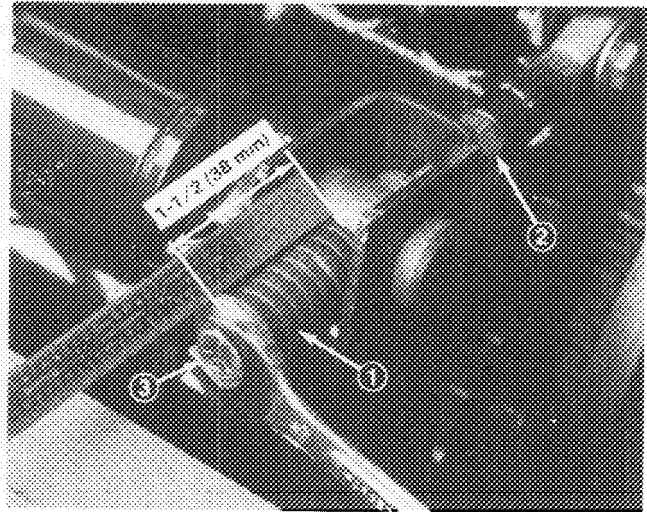
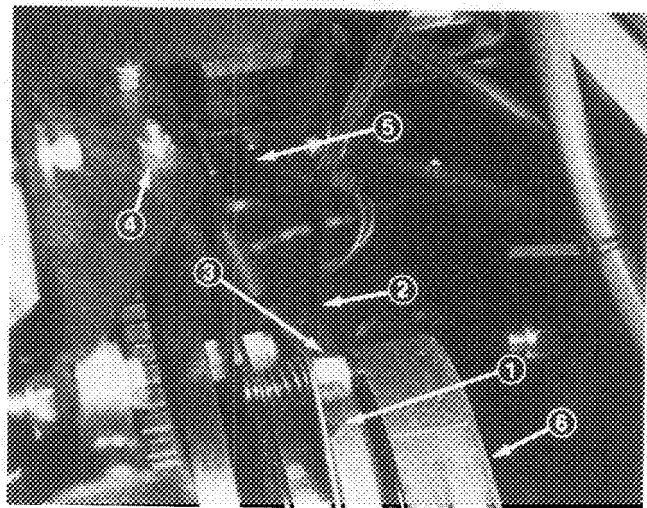

Figure 41
Figure 42
2. Loosen the tensioning rod jam nut (Fig. 41).
3. Use a 1/2" wrench to tighten or loosen the belt tensioning spring (Fig. 41). Adjust spring to a length of 1-1/2" (38 mm).
3. Using a 1/2" wrench, loosen the belt tensioning spring (Fig. 41) all the way.
4. Rotate PTO pulley toward the engine and remove the belt (Fig. 42).
5. Install the new PTO belt and retension the pulley spring to 1-1/2" (38 mm) (Fig. 41).
6. Tighten the jam nut (Fig. 41) and close the hood.
2. Remove the left hand clutch retainer bracket nut and bolt so that the retainer bracket rubber bumper can be removed (Fig. 42).
3. Unplug clutch electric connector (Fig. 42).
- Adjust the air gap so that a .015 inch feeler gauge slides in between the clutch lining and friction plate with light pressure (Fig. 42). The gap can be decreased by turning the adjusting nut clockwise (Fig. 41).